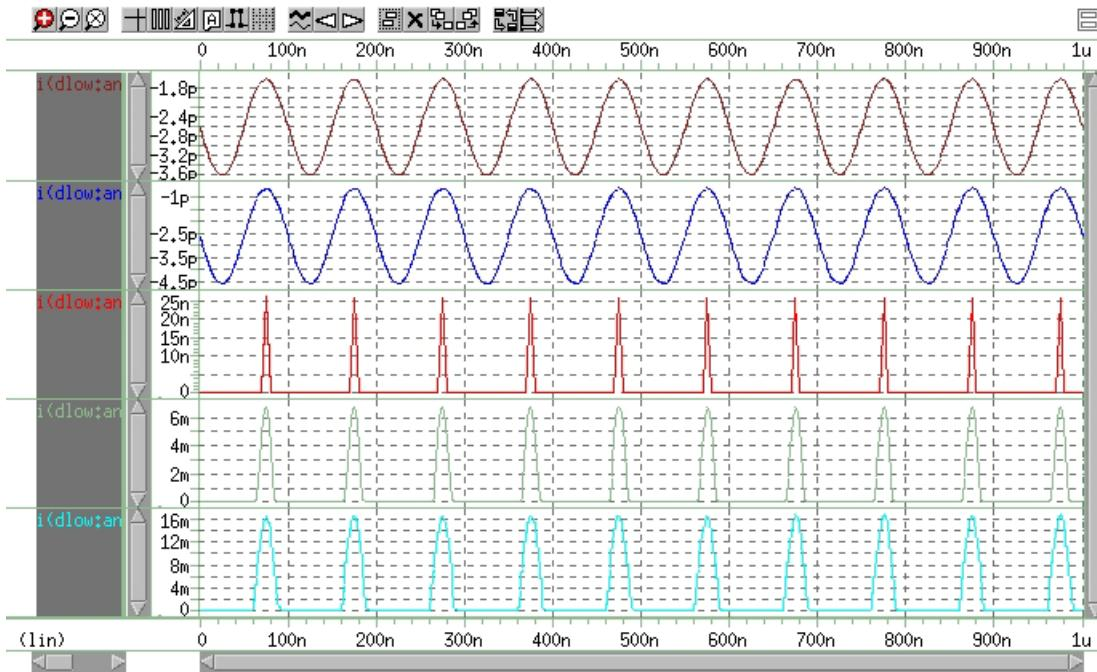

Figure 203 Plot of Current through Diode dlow vs. Time
12. Click the ungroup panels icon ( )on the WaveView panel tool bar to display a plot similar to the one shown in Figure 203 on page 1060.